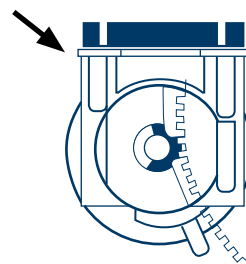

Figure 3
- Place Shim(s) only at the outboard mounting hole (See Figure 3).